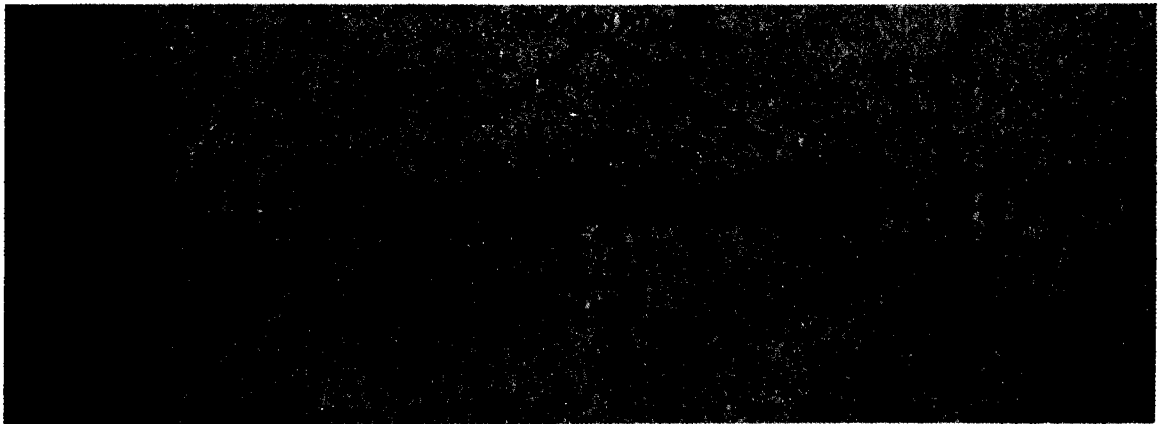

Figure 170. Drag link assembly - exploded view
118. Drag Links (Fig. 170)
a. Remove cotter pin (fig. 170) and turn adjusting plug in tight; then back off one-half turn, or less, until new cotter pin can be installed.